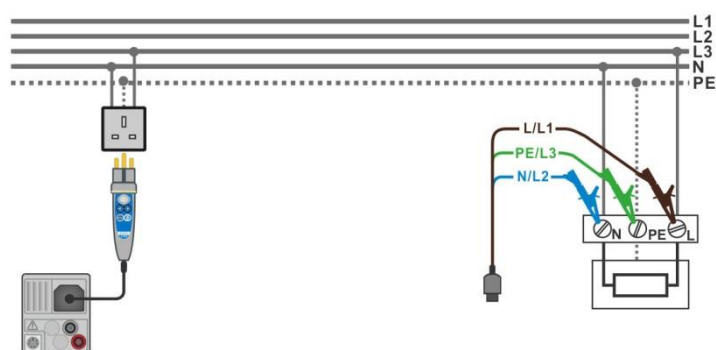

Figure 7.96: Connection of Plug commander and 3-wire test lead
- › Connect test leads or Plug commander to the object under test, see **Figure 7.96**.